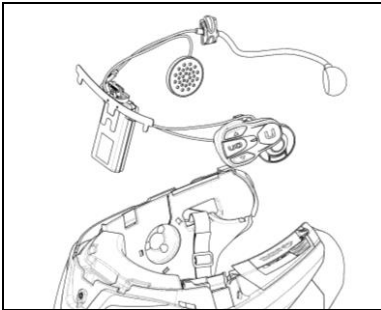

Fig. 6
- Place the system in the special housing in the back of the helmet, pushing it all the way into the groove (Fig. 6).